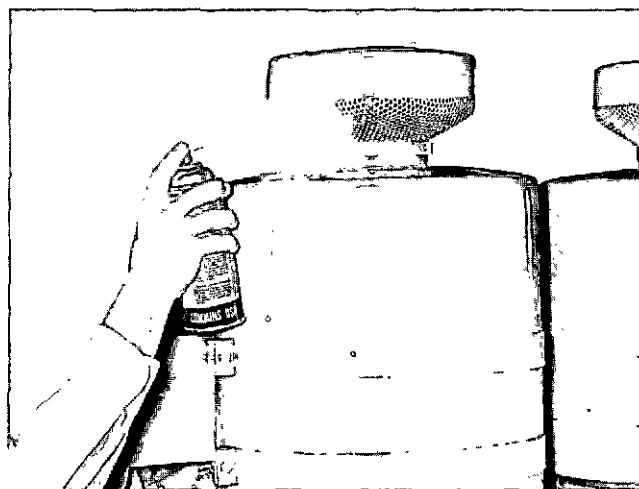

Fig. 2-6, V41805. Ether spray application
2. As an alternate method, spray ether into air cleaner intake while second man cranks the engine. Fig. 2-6.